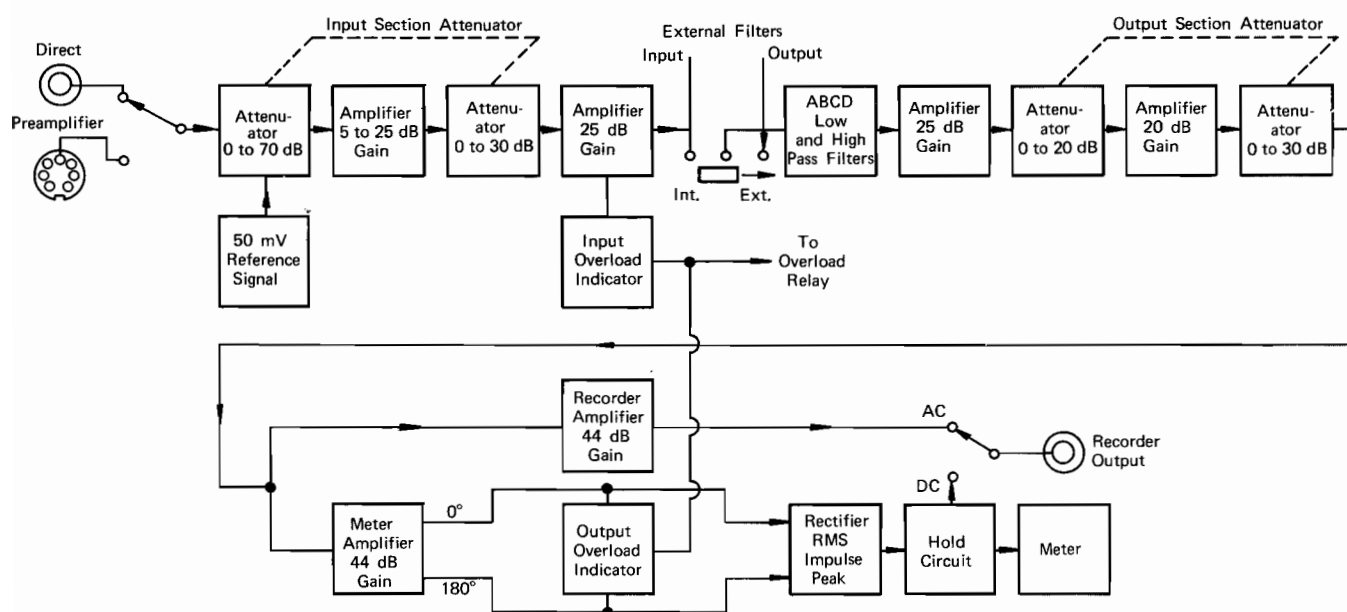

Fig. 4.1. Block diagram of the 2606 Measuring Amplifier
- The measurement characteristics of the 2606 will be discussed with reference to the block diagram of the instrument shown in Fig. 4.1.
In the 2606, the variable squaring characteristic is obtained by feeding back the voltage E on the averaging capacitor C_A to the squaring circuit. When the input signal voltage e (in the actual circuit e is the in-phase and 180° out of phase signal from the Meter Amplifier. See Fig. 4.1), exceeds the level of the voltage on the averaging capacitor the